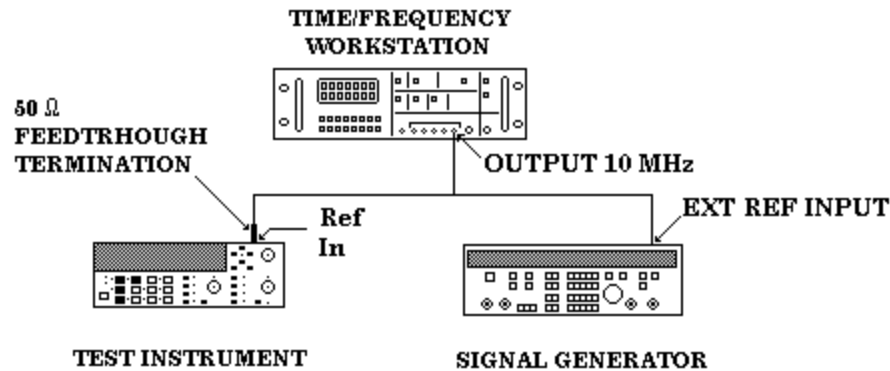

Figure 2. Equipment setup
- (1) Press and release TI **POWER ON/STBY** pushbutton to **STBY**.
- (2) Press TI **POWER ON/STBY** pushbutton to **ON**.
- (3) Connect equipment as shown in figure 2.